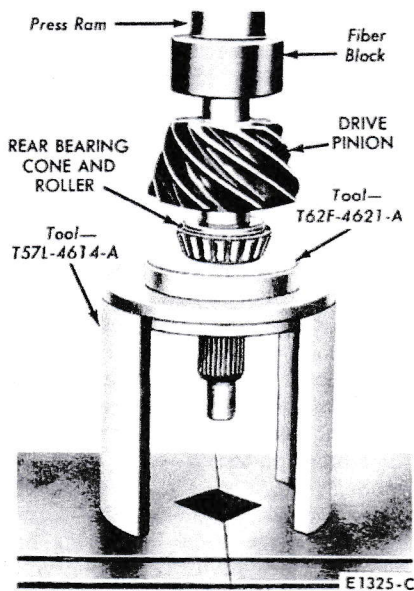
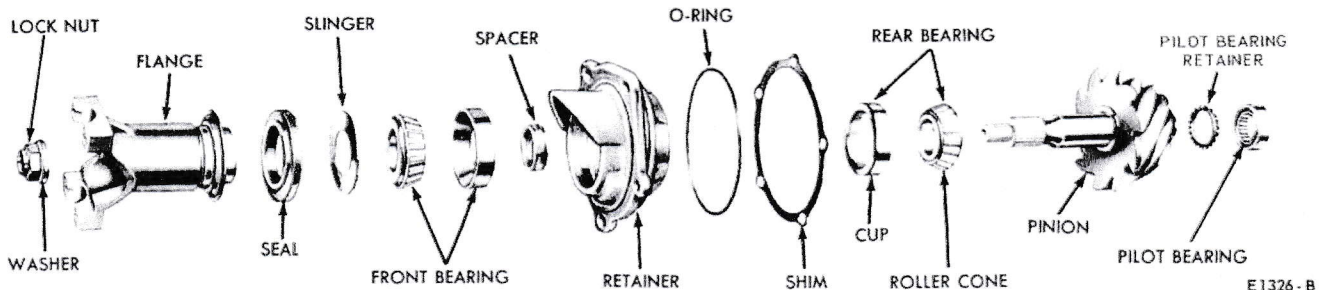

FIG. 46—Installing Pinion Rear Bearing Cone
FIG. 47—Pinion and Bearing Retainer
bearing cone and roller on the pinion shaft (Fig. 46). On cars equipped with high performance engines use tool T57L-4621-B along with tool 757L-4614-A as shown in Fig. 46. Place a new spacer on the pinion shaft (Fig. 47).
2. Place the bearing retainer on the pinion shaft, and install the front bearing cone and roller in the retainer. Press the front bearing cone and roller into position with the same tools as used in Fig. 46 for front bearing installation. On cars with high performance engines, use